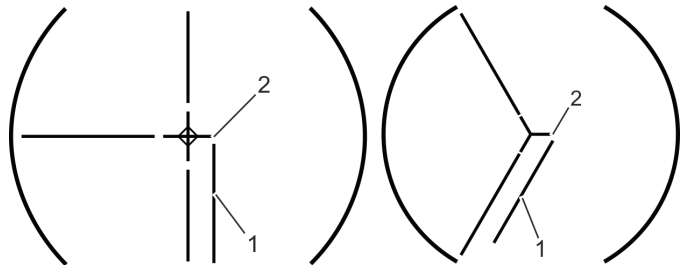

Fig. 45 Transport opening (four and three wings)
6. Turn back the knob on the fitting (Fig. 45/1) in order to stop the wing (Fig. 45/2).
- » The transport opening (Fig. 45) has been created.